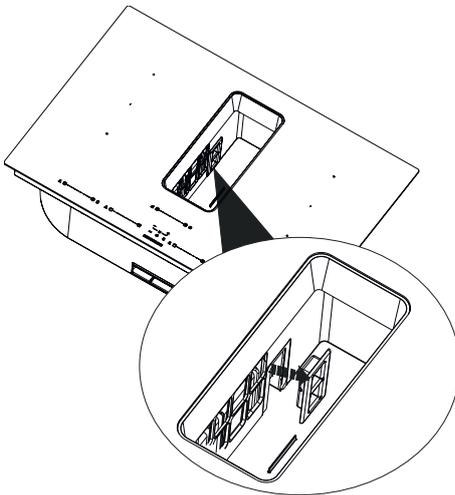

Fig. 6
2. → Remove the active carbon filter lid (Fig. 6).